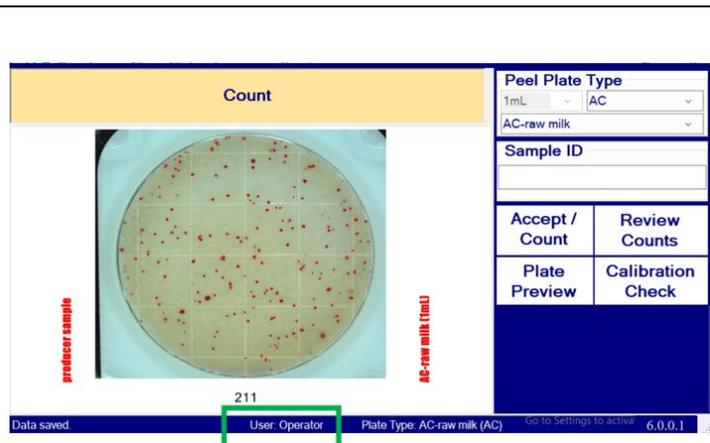

Figure 26
- To change operators or change to administrator, mouse click or tap on **User:** text in the center of the lower status bar noted by the green box of Figure 26.